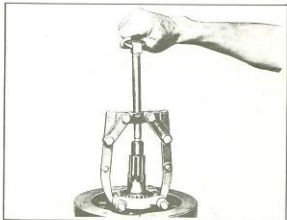

Figure 3-40. Pulling Bearing from Sprocket Shaft
8. If flywheels are to be disassembled, grip pinion shaft in vise and pull bearing from sprocket shaft using claw puller and wedge attachment. Place wedge halves behind bearing and pull bearing off by tightening puller screw against sprocket shaft center as shown in Figure 3-40. Keep bearings in a set with proper bearing outer races.